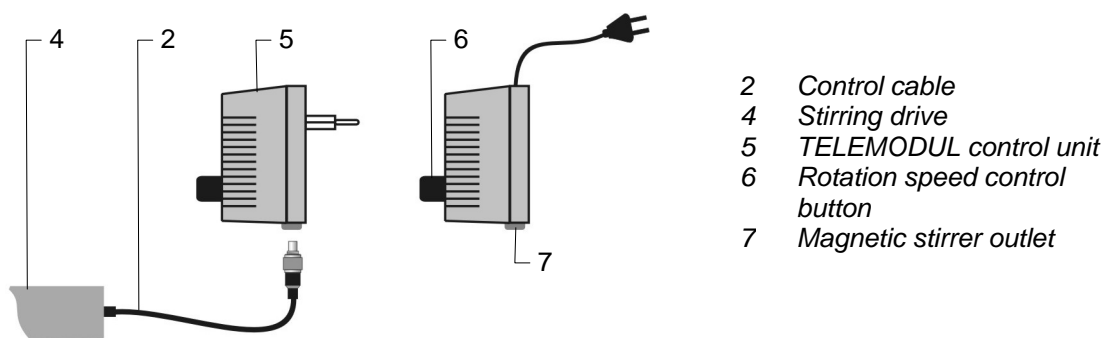
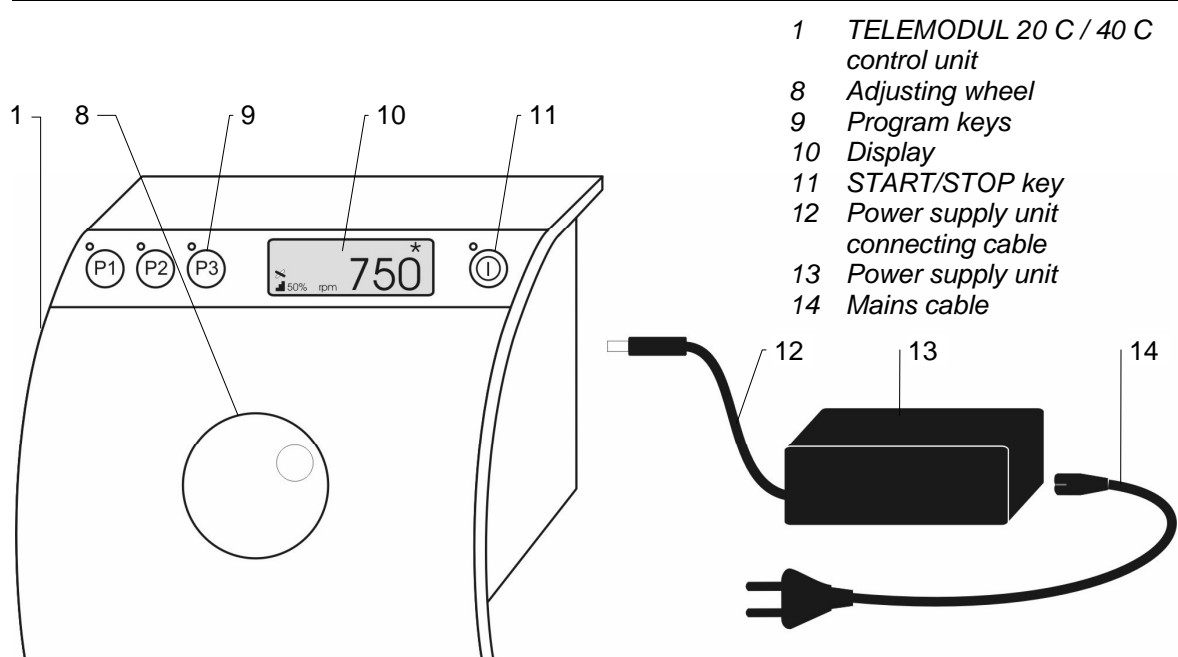

Figure 2: TELEMODUL control unit as plug-in control unit (left) or with mains cable (right)
Figure 3: Control unit TELEMODUL 20 C / 40 C with power supply unit
The stirring drives (4) get their power either from the TELEMODUL control unit (5; Figure 2) or the TELEMODUL 20 C / 40 C control unit (1; Figure 3).
On the budget-priced equipment incorporating the TELEMODUL control unit (Figure 2), the rotation speed can be preselected continuously. This is done using the rotation speed control button (6). The TELEMODUL control unit can be of the plug-in type, or be fitted with a mains cable.
When using the TELEMODUL 20 C / 40 C (Figure 3), you have a choice of stirring or vertically mixing the liquid. During stirring operation, the liquid will rotate in the vessel. During vertical mixing (shake mode), the current inside the vessel will be directed upwards and downwards. The liquid will not rotate. The rotation or shaking frequency can be adjusted continuously. The speed display shows the current rotating or oscillating speed of the magnetic stirring bars. All magnetic stirring bars will be moving at the same frequency.